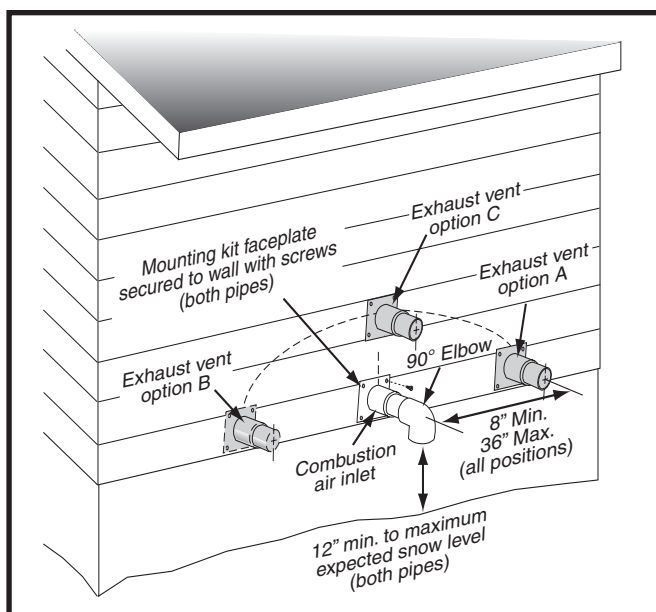
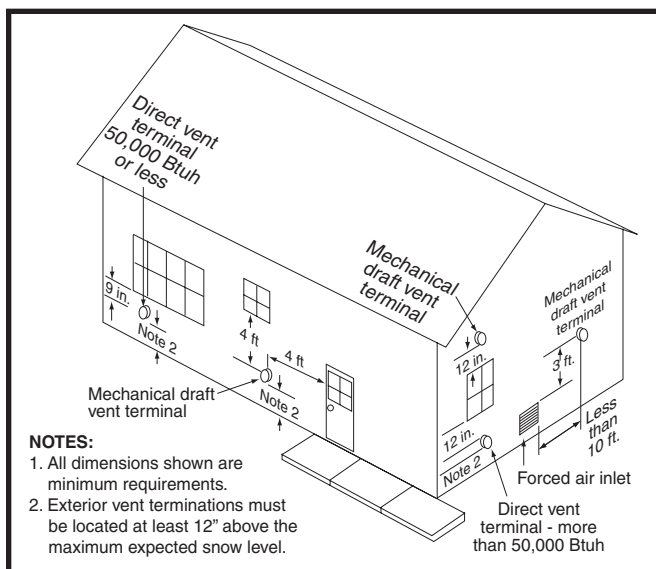
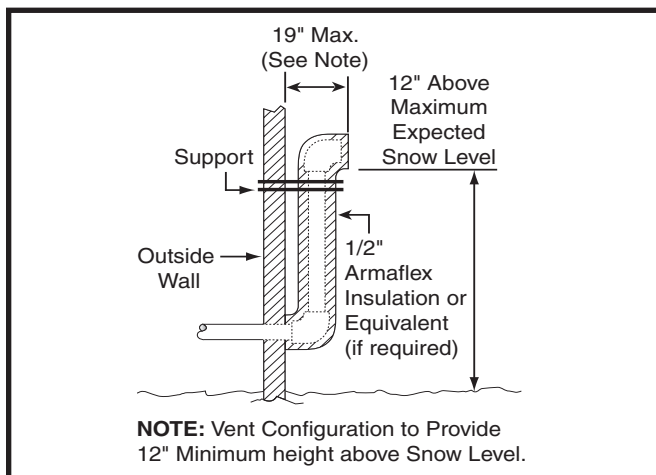
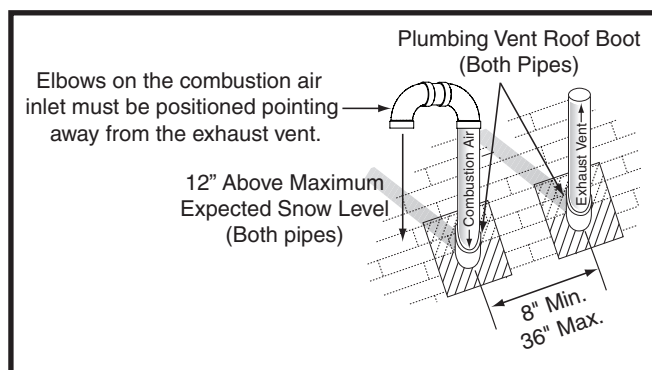

Figure 1. Inlet & Exhaust Pipe Clearances
Figure 2. Vent Locations
Figure 3. Alternate Horizontal Vent Installation
Figure 4. Vertical Vent Termination
- When a 2-pipe system is used, the combustion air intake and the vent exhaust must be located in the same atmospheric pressure zone. This means both pipes must exit the building through the same portion of exterior wall or roof as shown in Figure 1, Figure 2 & Figure 4 \(page 9\) and Figure 33 \(page 37\).
- Vent and combustion air intake terminations shall be installed as shown in Figure 1, Figure 2, Figure 3, & Figure 4 and in accordance with these instructions:
- All minimum clearances (Figure 2) must be maintained to protect building materials from degradation by flue gases.
- When the vent pipe must exit an exterior wall close to the grade or expected snow level where it is not possible to obtain clearances shown in Figure 1, a riser may be provided as shown in Figure 3. Insulation is required to prevent freezing of this section of pipe. See Table 3, \(page 10\) for vent freezing protection.
Termination spacing requirements from the roof and from each other are shown in Figure 4. The roof penetration must be properly flashed and waterproofed with a plumbing roof boot or equivalent flashing. Vent and combustion air piping may be installed in an existing chimney which is not in use provided that:
- The termination clearances shown in Figure 4 are maintained.